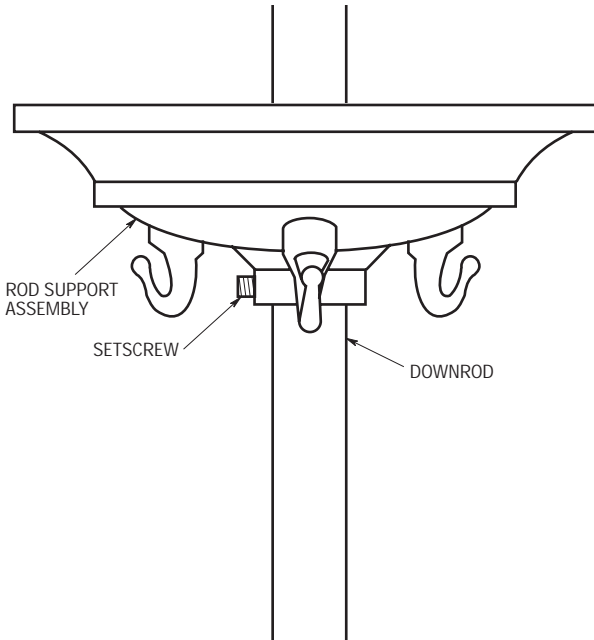

Figure 16
- 1. Loosen the setscrew in the collar of the rod support assembly using the 5/64" hex wrench (supplied) and slide the support assembly over the downrod (Figure 16).